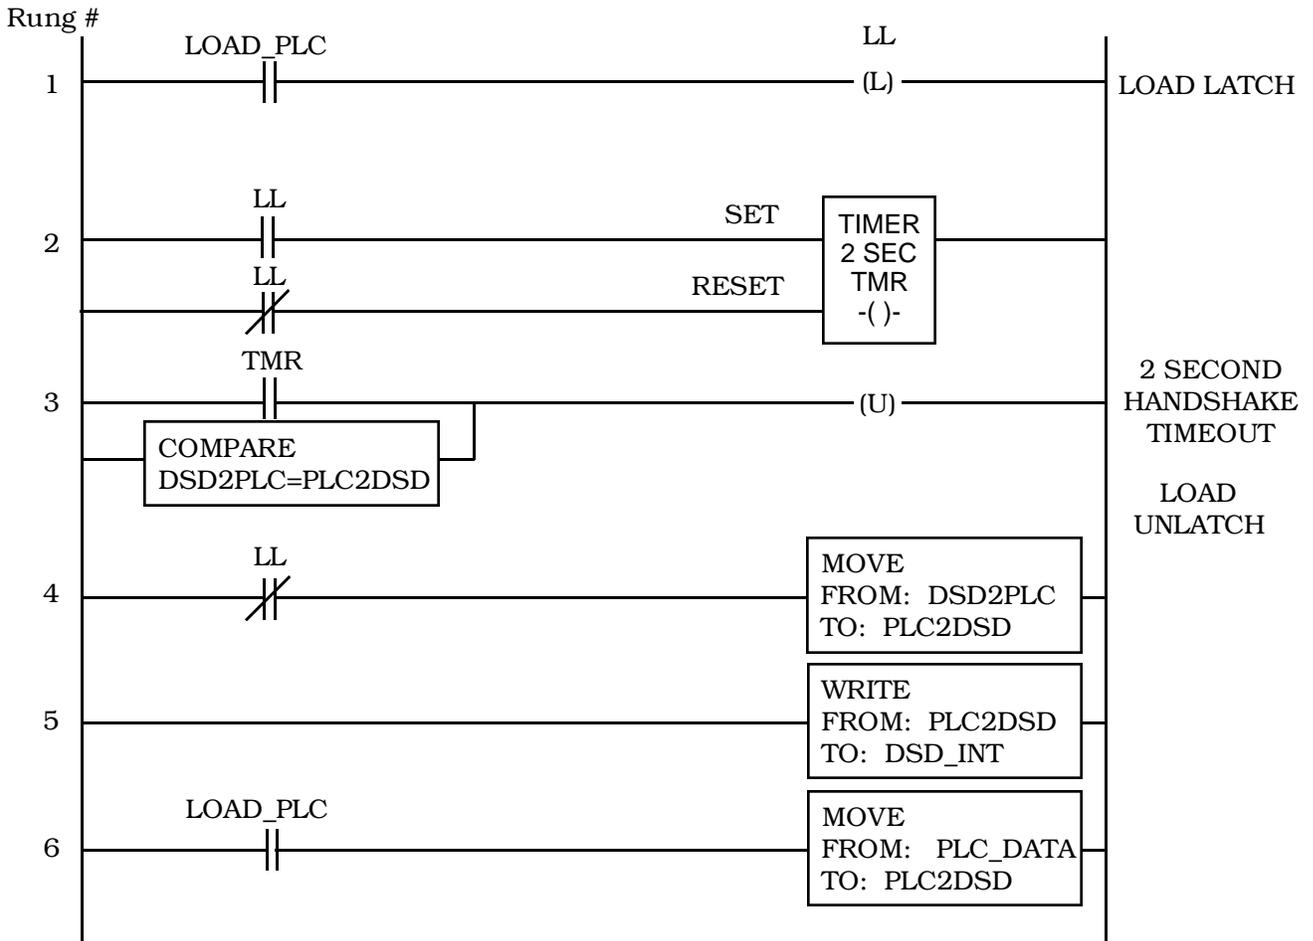

Figure 6. **Suggested PLC Ladder Strategy for GETN and RDCI PAC Blocks**
A sample ladder diagram is shown in Figure 6. It illustrates one technique which satisfies the above requirements. Table 4 explains each of the designators used in the ladder diagram. Rung 1 sets a load latch (LL) on a momentary transition of the LOAD\_PLC bit. Rung 2 starts the two second handshaker timer (TMR) when the Load latch (LL) is on and resets the timer (TMR) when the load latch (LL) is off. Rung 3 unlatches the load latch (LL) if one of two events occur: the leading edge of the timer (TMR) turning on, or the handshake confirmation has occurred wherein the value of data read from the DSD drive (DSD2PLC) is equal to the value sent to the DSD drive (PLC2DSD). Rung 4 returns the data sent from the DSD drive (DSD2PLC) back to the DSD drive (PLC2DSD), unless the load latch (LL) is true. Rung 5 executes the write to the drive system through the DSD gateway (DSD\_INT). Rung 6 transfers the PLC pending data (PLC\_DATA) to the value that will be sent to the DSD drive (PLC2DSD) when the LOAD\_PLC bit is in the ON state.